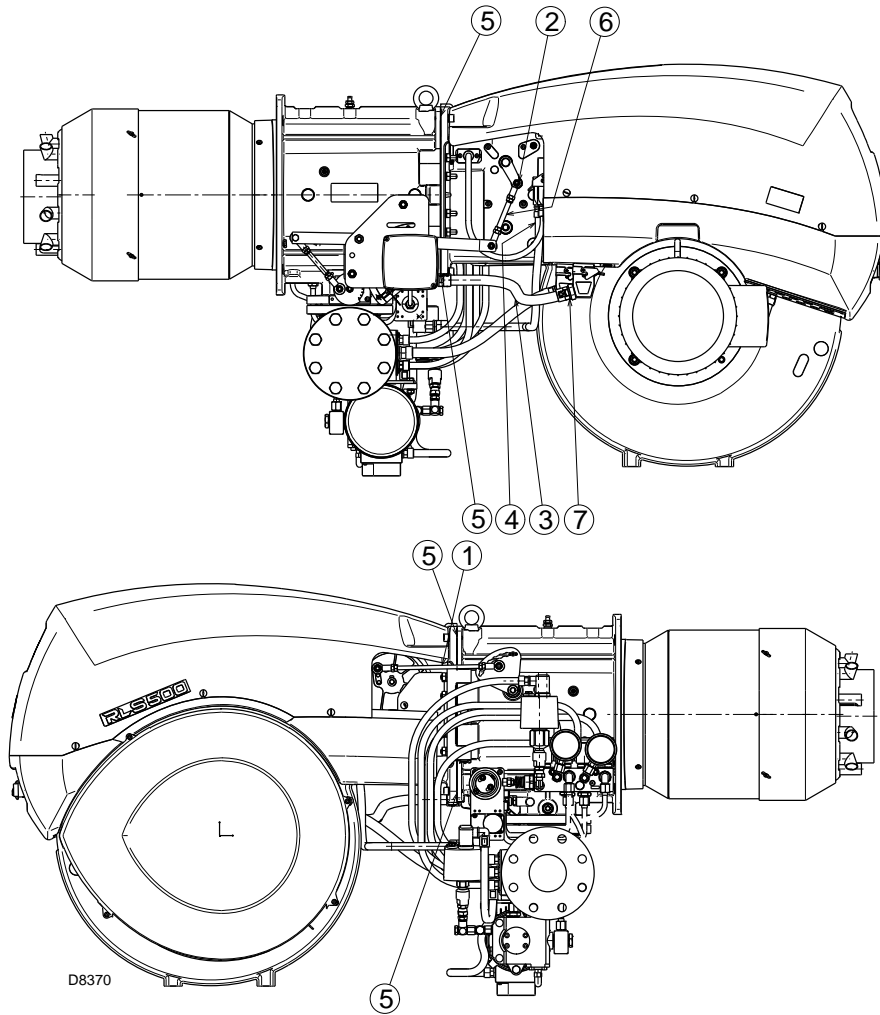

Fig. 46
- Remove the tie rods 1) and 6)(Fig. 46) of the head movement and damper opening lever by loosening nuts 2).